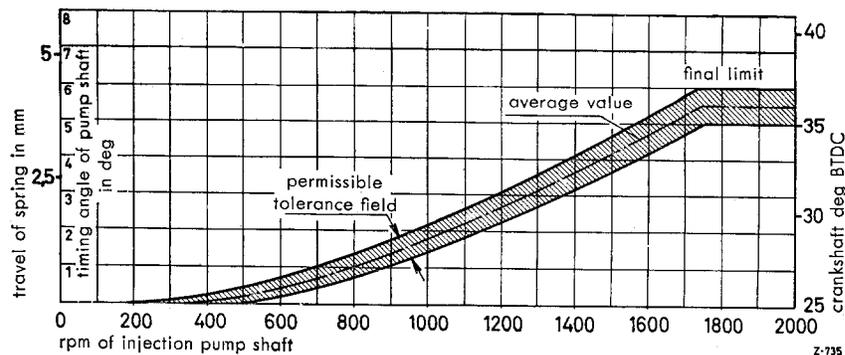

Figure 07-4/18
The injection timing device has the task of changing the beginning of delivery in accordance with the engine speed. On the engines of the Model OM 636 without injection timing device the beginning of injection and/or delivery is adjusted to 30 to 32 deg BTDC and is constant for the entire speed range. The beginning of delivery can be moved to 26 deg BTDC by installing an injection timing device. This results in a considerable improvement as far as the noises in the low speed range are concerned. In the higher speed ranges, however, the beginning of delivery is advanced in accordance with the increasing engine speed (see Figure 07-4/18). This arrangement not only increases the engine output but saves fuel at the same time.
The injection timing device exploits the principle of centrifugal force. The segment plate (4) of the injection timing device is fixed to the drive gear (1) (see Figure 07-4/19). The drive gear is pivoted in the bush (7) and is not directly connected with the drive shaft (8). The segment flange (6) is securely mounted on the drive shaft (8) and guarded against turning by a Woodruff key. The two centrifugal weights (5) are located between the contact surfaces (a) of the segment plate (4) and the segment flange (6). The two tension springs (10) press the segment plate (4) and the segment flange (6) against the centrifugal weights (5) into the idling stop position.